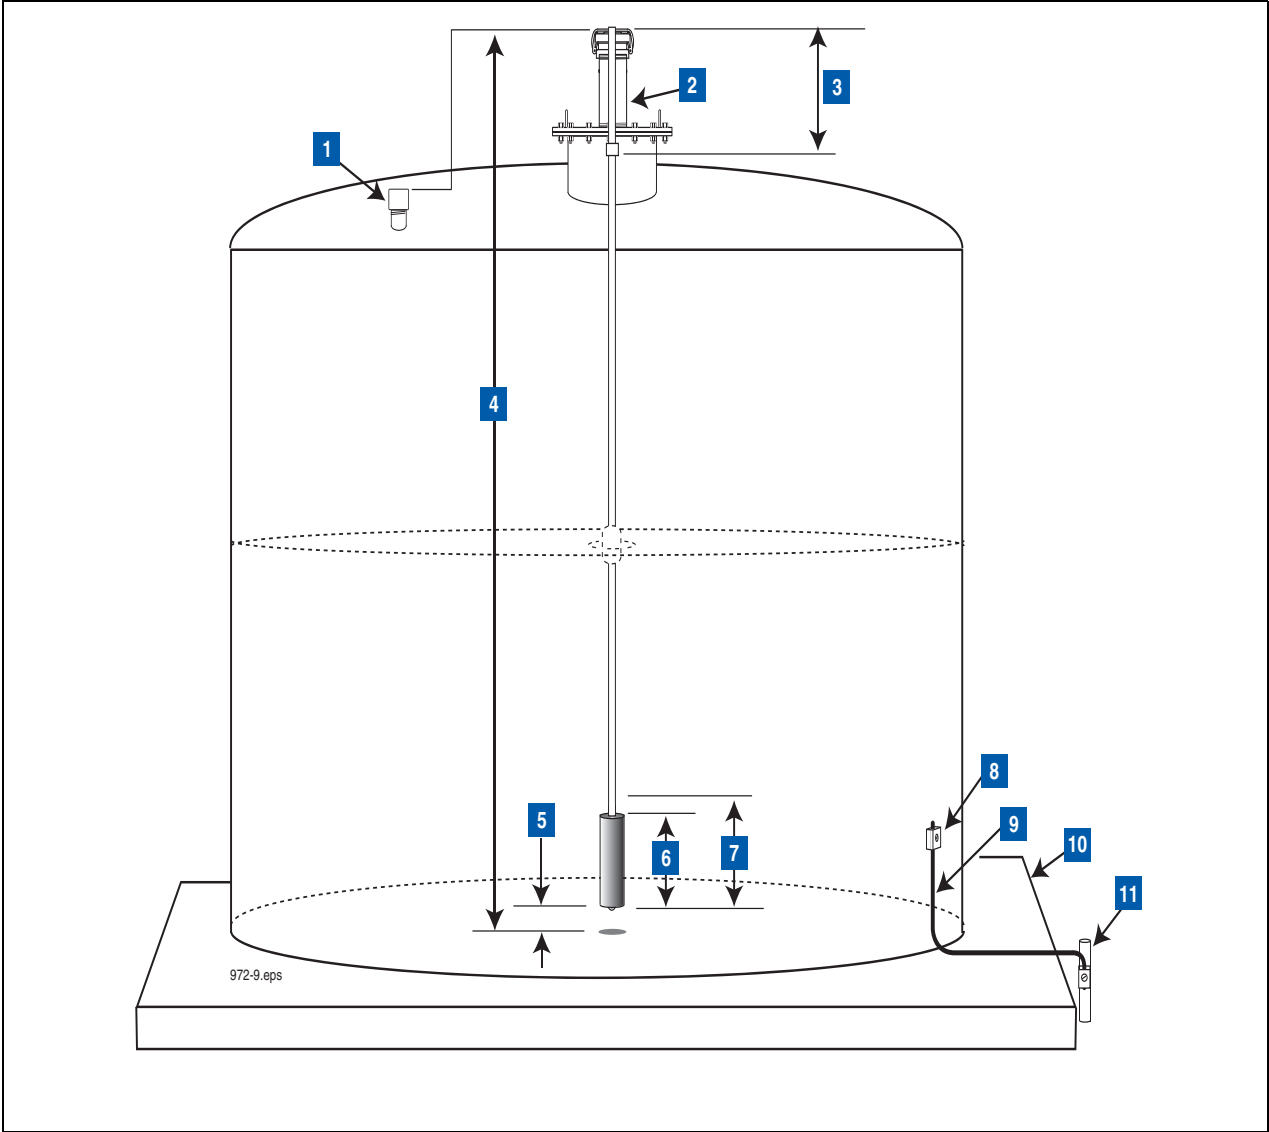

Figure 2. MAG-XL Flex Probe parameters
12. AST grounding cables and earth electrodes according to NFPA70 and local codes (ref. example in Figure 2).
LEGEND FOR NUMBERED BOXES IN Figure 2
5. 1/2" NPT galv. nipple and 3/4" to 1/2" reducing bushing (customer supplied)	10. Tank grounding (ref items 8 - 11 in Figure 2).
| | 9. Tank grounding (ref items 8 - 11 in Figure 2). |